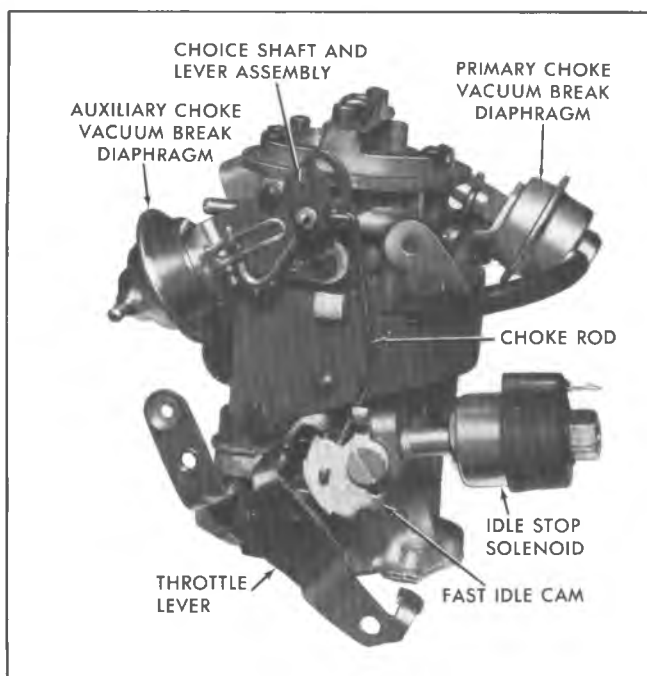

Fig. 2—1MV Carburetor
2. Remove fast idle cam from boss on float bowl by removing attaching screw. Then, remove fast idle cam from choke rod and choke rod from upper choke lever (Fig. 2). Note position of rod and cam for ease in reassembly.